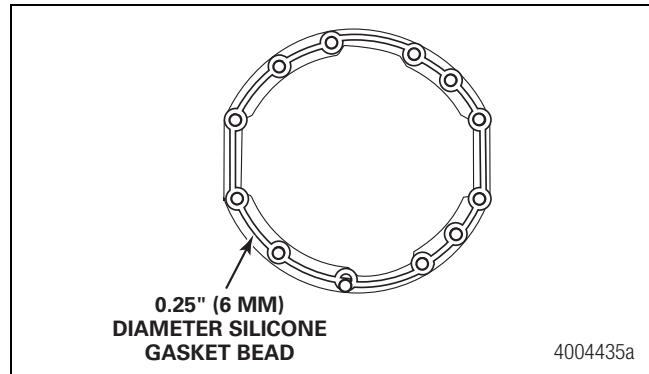

Figure 5.112
5. Apply a 0.25-inch (6 mm) continuous bead of silicone gasket material to the mounting surface of the housing where the carrier fastens. Figure 5.112.